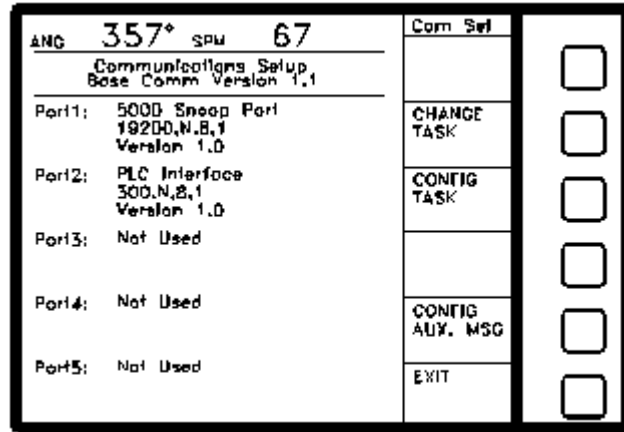

Figure 3.3: OmniLink 5000 Communications Config. Screen
- ◆ Push the “CONFIG COMM.” softkey to display the communications setup screen which should look similar to Figure 3.3 (the port configurations may vary depending on how the particular machine is set up and what options have been installed).